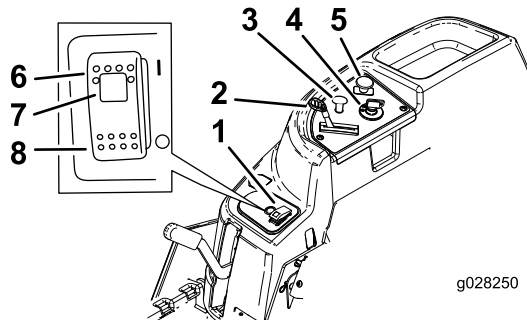
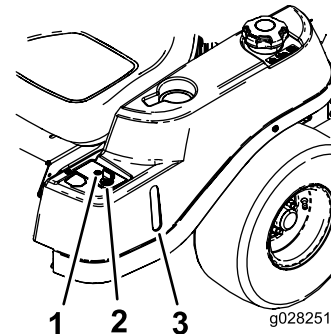

Figure 5
Figure 6
Become familiar with all controls in Figure 5 and Figure 6 before you start the engine and operate the machine.
The ignition switch has 3 positions—Off, Run and Start. The key will turn to Start and move back to Run upon release. Turning the key to the Off position will stop the engine; however, always remove the key when leaving the machine to prevent someone from accidentally starting the engine (Figure 5).
Use the choke to start a cold engine. Pull the choke knob up to engage it. Push down on the choke knob to disengage it (Figure 5).
The throttle control is variable between Fast and Slow. Moving throttle lever forward will increase engine speed and moving throttle lever to the rear will decrease engine speed (Figure 5).
The blade-control switch, (PTO), engages and disengages power to the mower blades (Figure 5).
The fuel window located on the left-hand side of the machine, can be used to verify the presence of gasoline in the tank (Figure 6).
This switch allows you to mow in reverse when it is activated. To activate it, turn the switch to on and release it after the PTO is engaged. To deactivate it, disengage the power take-off (PTO) (Figure 6).
- Pressing the SmartPark™ switch to the On position (Figure 5).